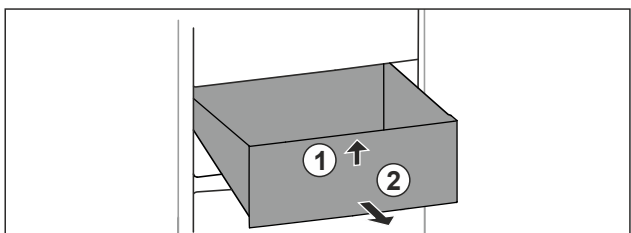

Fig. 114
- ▶ Lift up drawer at the front. Fig. 114 (1).
- ▶ Remove drawer to the front. Fig. 114 (2).